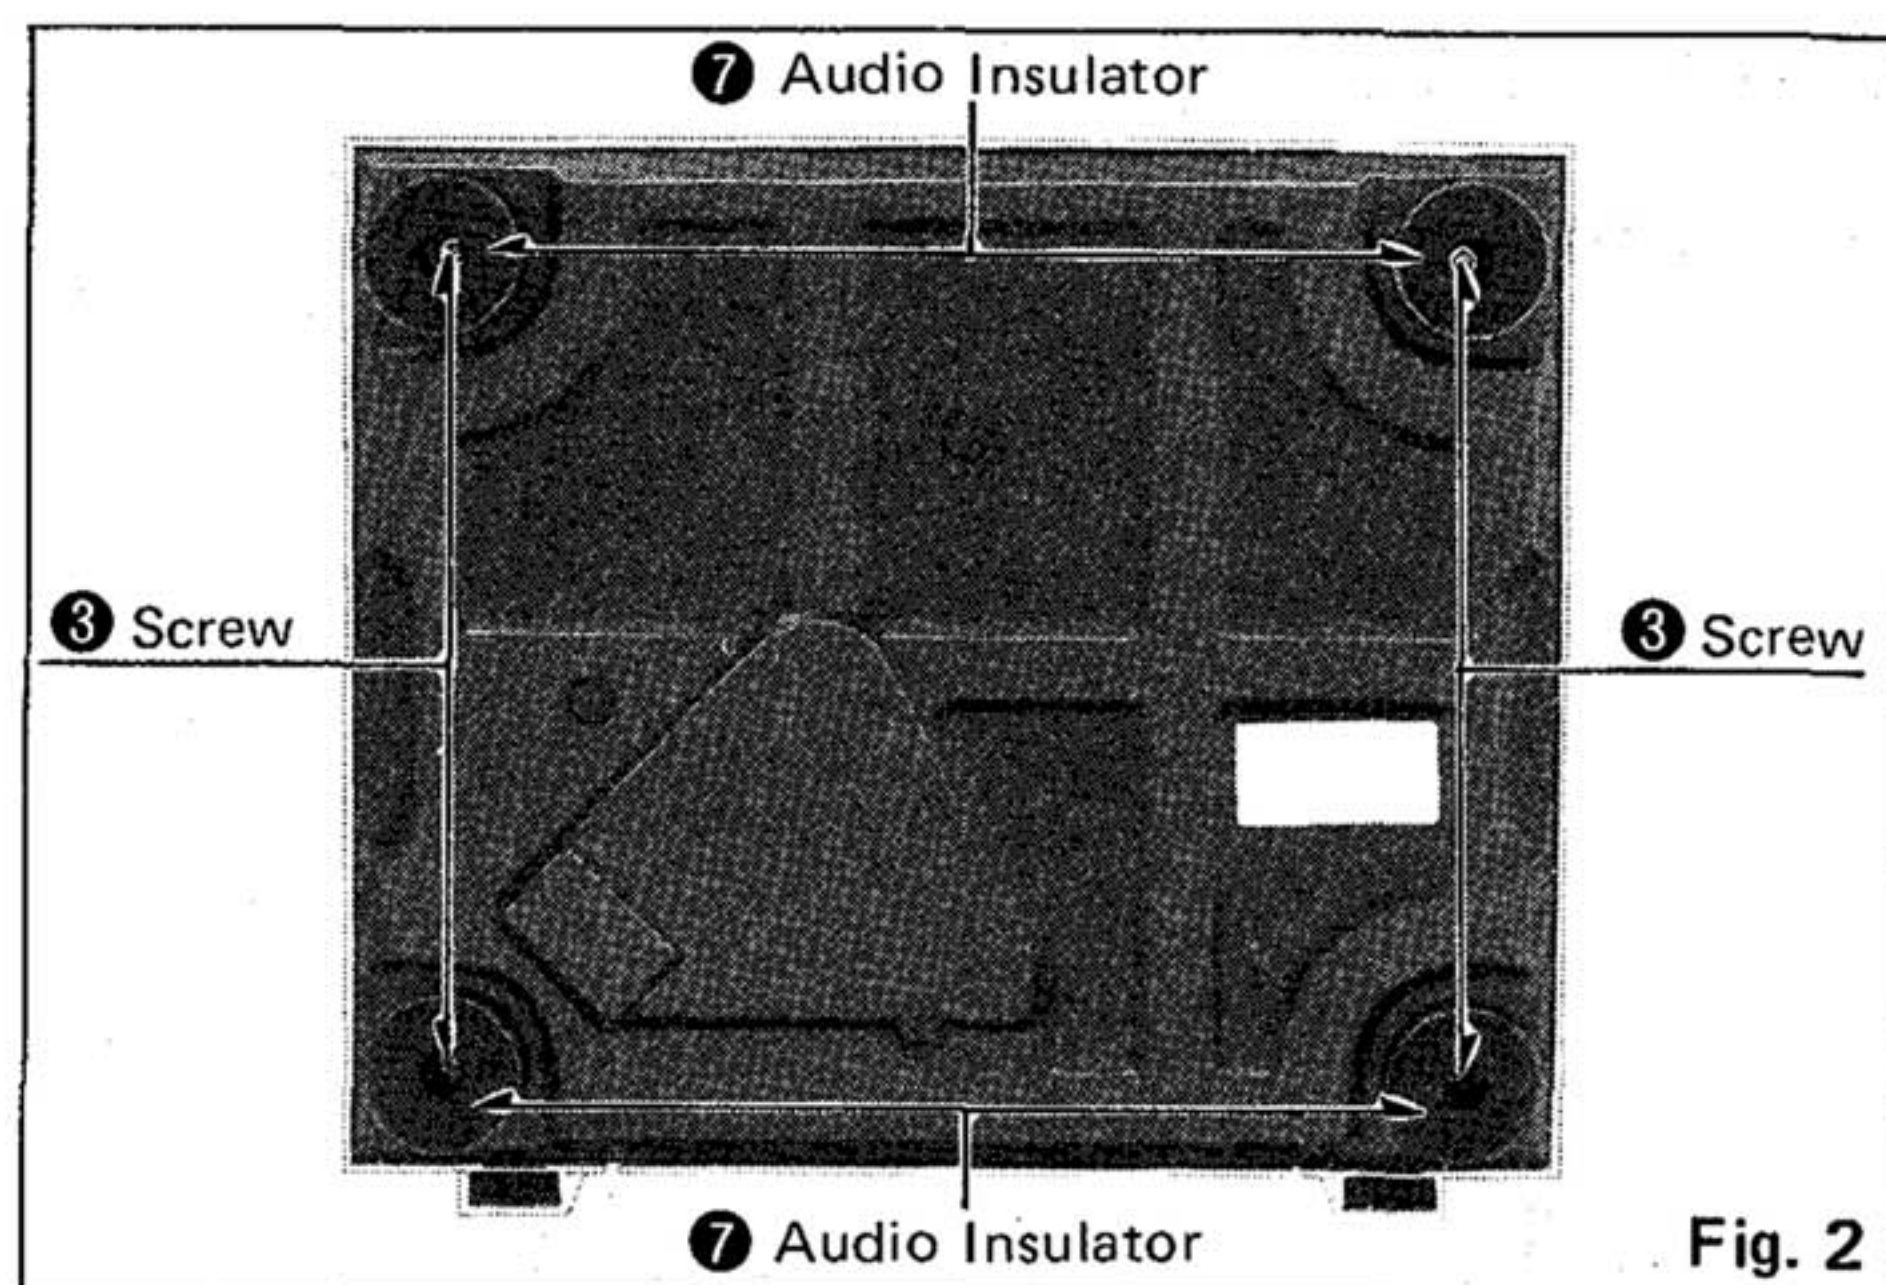

Fig. 2
4. Remove 4 setscrews ③ . (See Fig. 2)